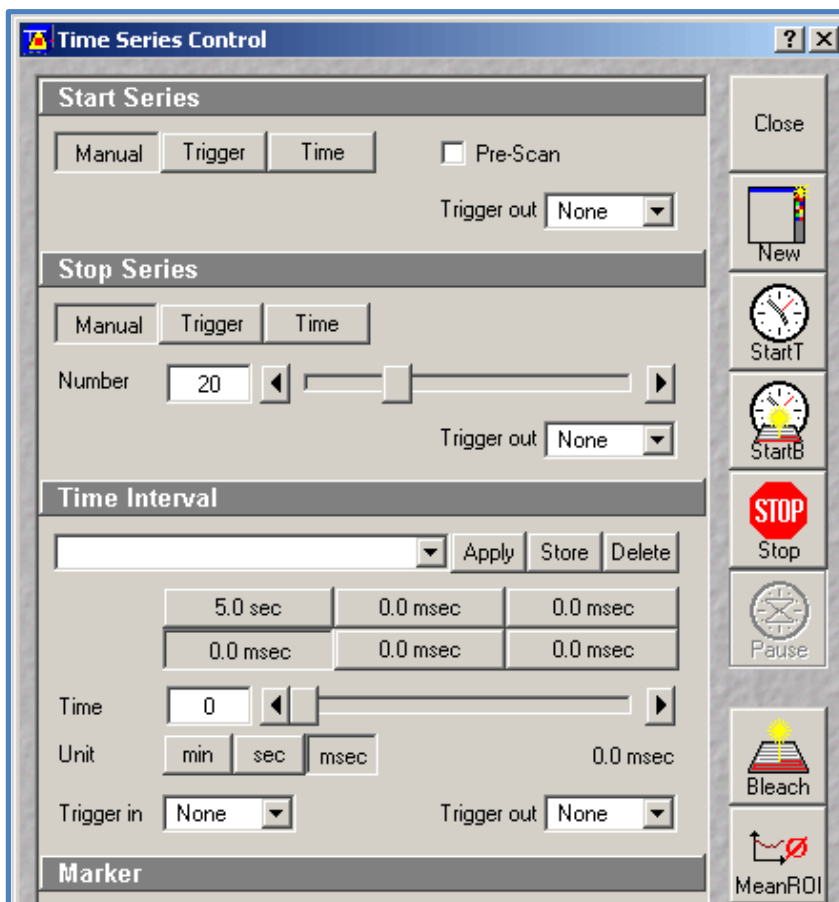

Figure 2.
- Set up a time-series to include the pre bleach scans and then a reasonable number of bleach events (see Figure 2). The more data points for the bleaching curve the better.